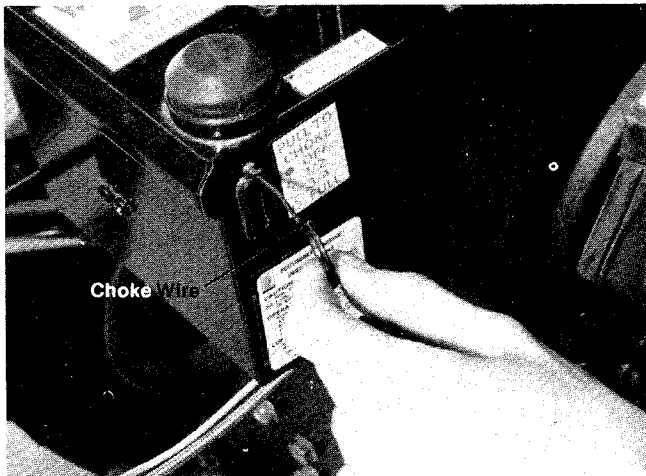

FIGURE 29.
1. Pull choke wire out to "ON" position. See figure 29.